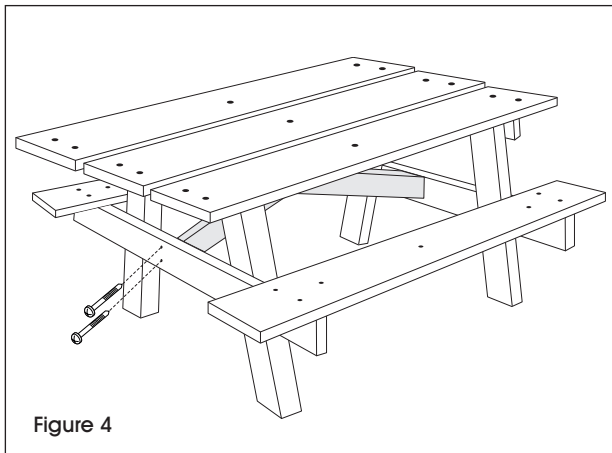

Figure 4
7. Loosely drill the two tabletop supports (equal angles) to the underside of the A-Frame table with the tabletop support (different angle) in the middle using 3" drywall screws (will tighten later in step 8). (See Figure 4)